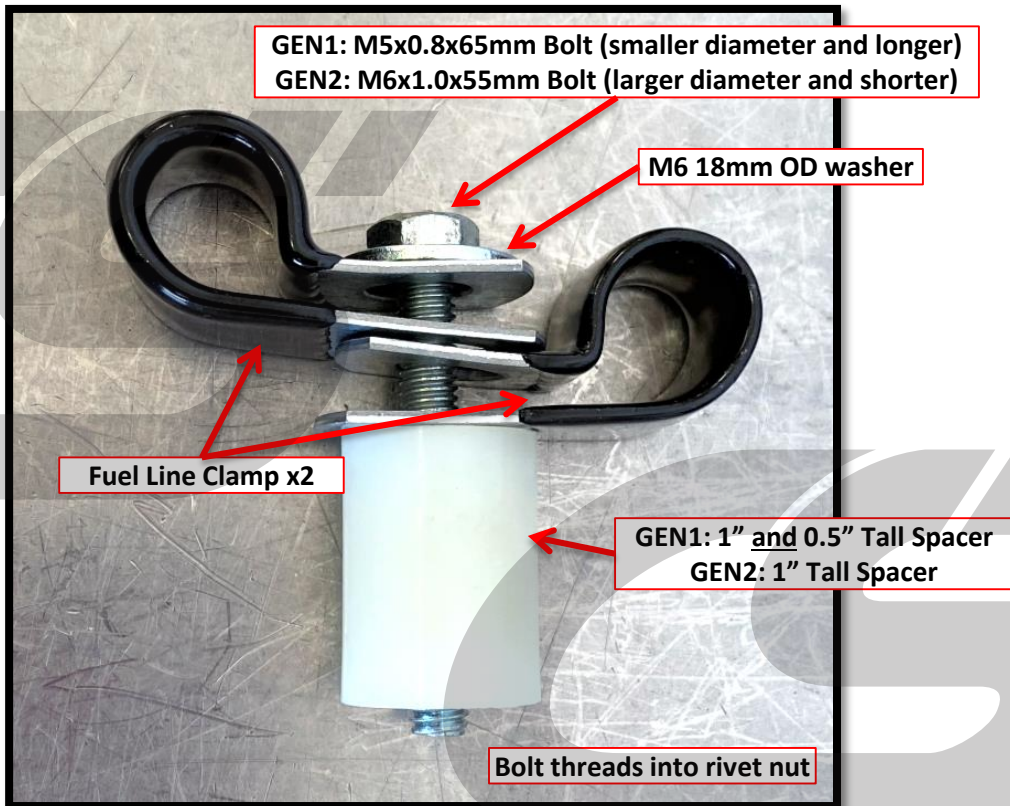

Figure 13d
- c) Figure 13d shows the hardware stack for securing the two lines to the frame rail. Carefully review this hardware setup before moving onto the next step.
- e) Install the hardware stack as shown in **Figure 13d** into the rubber rivet-nut installed in the frame rail. Do not fully tighten. Shown completed in **Figure 13e** for GEN1. Shown completed in **Figure 13f** for GEN2.